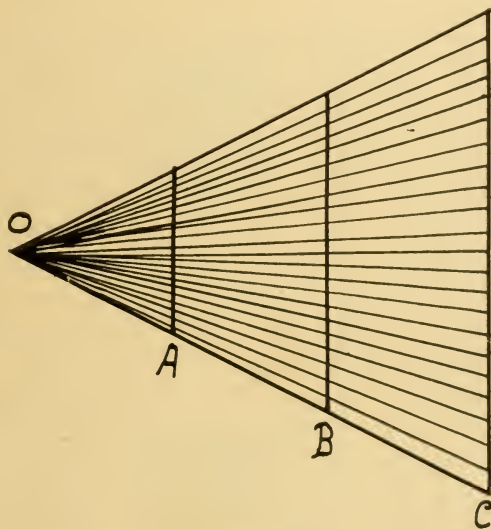

FIGURE 30
(3) In Fig. 30 we see an open light source with three screens, A, B and C, located one foot, two feet and three feet respectively from the light. Screen A, we will assume, is exactly one foot high and one foot wide. It therefore represents one square foot of area. Screen B located two feet from the light, has twice the dimensions of screen A and is 4 feet square. Screen C is 3 feet